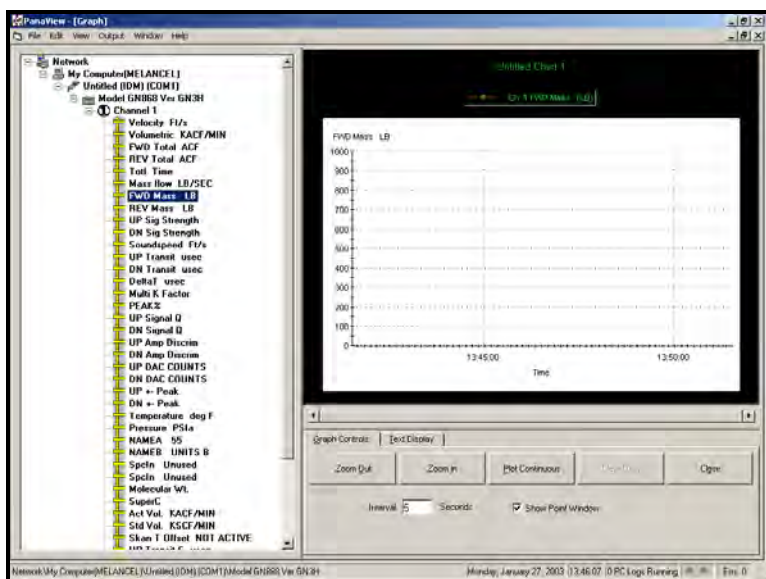

Figure 58: The Graph Window
3. Using the “Window” menu, as described on page 69, arrange the open windows in the desired format. For this discussion, Figure 58 shows the “Graph” window in its maximized (full-screen) size.
2. When you have finished creating the desired graphs, click on the [Close] option button in the lower right pane of the “Graph” window (see Figure 58 on page 78).